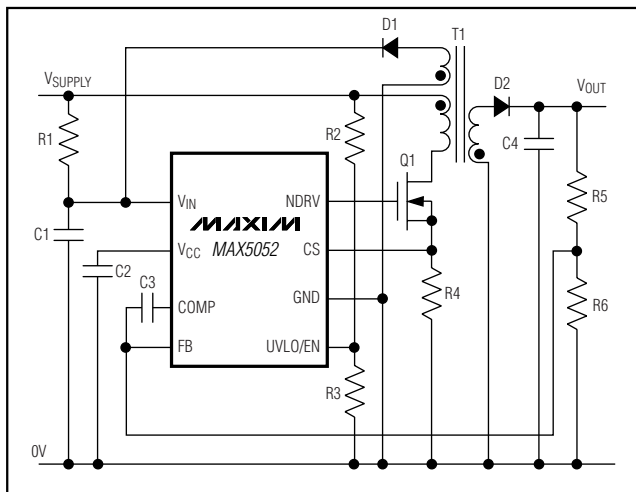
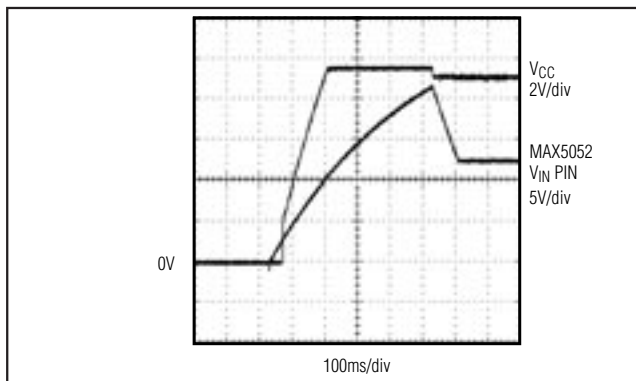

Figure 1. Nonisolated Power Supply with Programmable Input-Supply Start Voltage
Figure 2.  $V_{IN}$  and  $V_{CC}$  During Startup when Using the MAX5052 in Bootstrapped Mode (Figure 1)
**Note 3:** The MAX5052 is intended for use in universal input power supplies. The internal clamp circuit is used to prevent the bootstrap capacitor (C1 in Figure 1) from charging to a voltage beyond the absolute maximum rating of the device when EN/UVLO is low. The maximum current to  $V_{IN}$  (hence to clamp) when UVLO is low (device in shutdown) must be externally limited to 2mA, max. Clamp currents higher than 2mA may result in clamp voltage higher than 30V, thus exceeding the absolute maximum rating for  $V_{IN}$ . For the MAX5053, do not exceed the 24V maximum operating voltage of the device.
Power supplies designed with the MAX5052 use a high-value startup resistor, R1, that charges a reservoir capacitor, C1 (see Figure 1). During this initial period, while the voltage is less than the internal bootstrap UVLO threshold, the device typically consumes only 45μA of quiescent current. This low startup current and the large bootstrap UVLO hysteresis helps to minimize
Use this UVLO function to program the input-supply start voltage. For example, a reasonable start voltage for a 36V to 72V telecom range might be set at 34V. Calculate the divider resistor values, R2 and R3 (see Figure 1) by using the following formulas:
Normally  $V_{IN}$  is derived from a tertiary winding of the transformer. However, at startup there is no energy delivered through the transformer, hence, a special bootstrap sequence is required. Figure 2 shows the voltages on  $V_{IN}$  and  $V_{CC}$  during startup. Initially, both  $V_{IN}$  and  $V_{CC}$  are 0V. After the line voltage is applied, C1 charges through the startup resistor, R1, to an intermediate voltage. At this point, the internal regulator begins charging C2 (see Figure 1). The MAX5052 uses only 45µA of the current supplied by R1, and the remaining input current charges C1 and C2. The charging of C2 stops when the  $V_{CC}$  voltage reaches approximately 9.5V, while the voltage across C1 continues rising until it reaches the wake-up level of 21.6V. Once  $V_{IN}$  exceeds the bootstrap UVLO threshold, NDRV begins switching the MOSFET and transfers energy to the secondary and tertiary outputs. If the voltage on the tertiary output builds to higher than 9.9V (the bootstrap UVLO lower threshold), then startup has been accomplished and sustained operation commences.
The  $V_{IN}$  bypass capacitor, C1, supplies current immediately after wake up (see Figure 1). The size of C1 and the connection configuration of the tertiary winding determine the number of cycles available for startup. Large values of C1 increase the startup time but also supply gate charge for more cycles during initial start-up. If the value of C1 is too small,  $V_{IN}$  drops below 9.9V because NDRV does not have enough time to switch and build up sufficient voltage across the tertiary output which powers the device. The device goes back into UVLO and does not start. Use a low-leakage capacitor for C1 and C2.
The above startup method is applicable to a circuit similar to the one shown in Figure 1. In this circuit, the tertiary winding has the same phase as the output windings. Thus, the voltage on the tertiary winding at any given time is proportional to the output voltage and goes through the same soft-start period as the output voltage. The minimum discharge voltage of C1 from 22V to 10V must be greater than the soft-start time of 60ms.
The MAX5052/MAX5053 include an internal error amplifier that can be used to regulate the output voltage in the case of a nonisolated power supply (see Figure 1) Calculate the output voltage using the following equation: